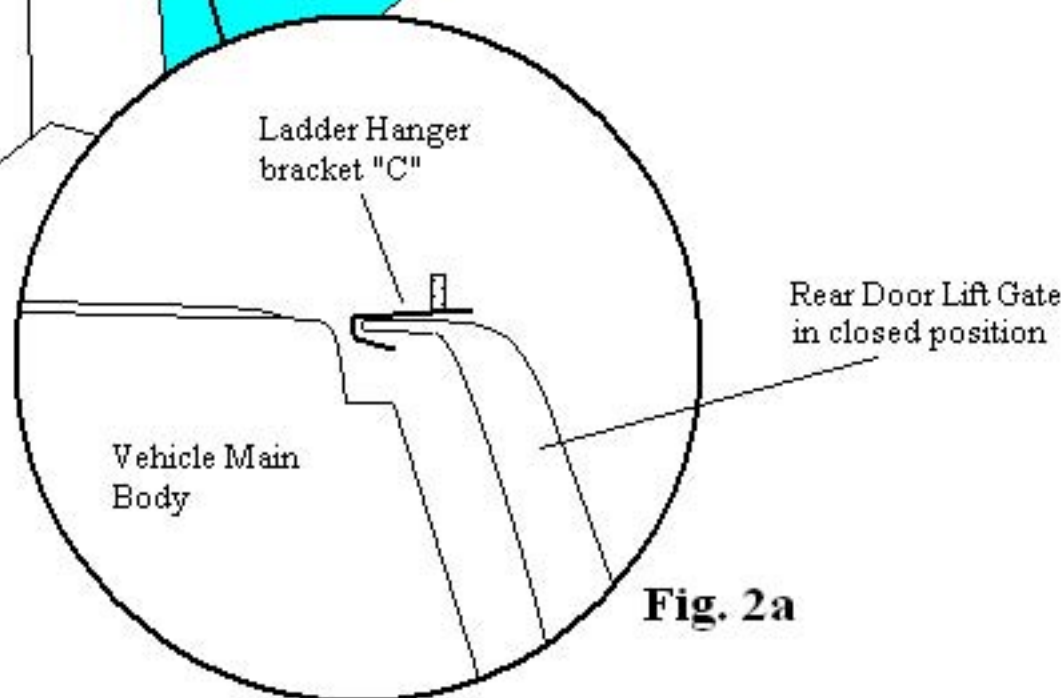

**Fig. 1**
- 2- Refer now to page 4 using masking tape or the like attach a piece of tape as shown in Fig. 1 at the top of the rear door Lift Gate approximately 3-1/8" from the top left or drivers side edge. Continue to the bottom of the rear door Lift Gate and attach a piece of masking tape to the lower edge of the door as shown in Fig. 1 8-3/8" from the left side or drivers side door edge.